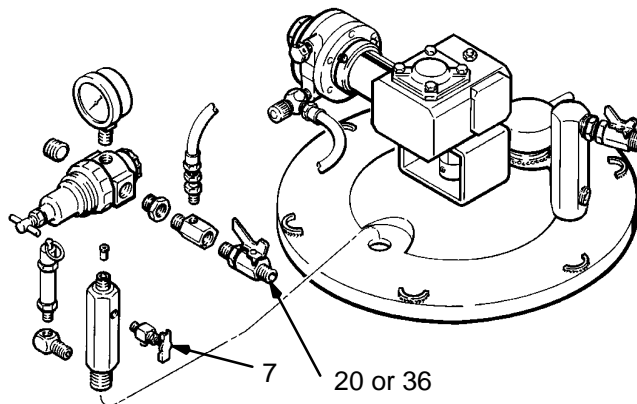

Fig. 1
2. Close the air inlet valve (20 or 36). Refer to Fig. 1.
3. Open the drain cock fitting (7) by turning it counter-clockwise.
5. Leave the drain cock fitting (7) open until you have reinstalled the cover or fill port.